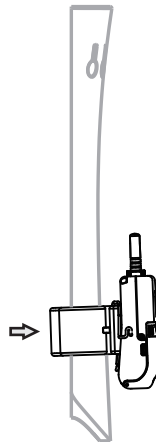

Fig. 39-3
(B) Install the transmitter set on the tailpiece of cello / double bass, Fig 39-3.